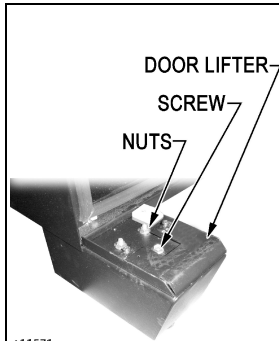

Figure 4c. Left Front Leg
4. **Retract the Front Legs** - Start with the Left Front Leg. From underneath the machine, loosen the two screws shown in Figure 4d. Remove the remaining 4 screws and the large screw. (Figure 4c). Remove the Left Hinge Reinforcement and the Door Lifter. Save all parts for step 5. Push the Left Front Leg in so that it is flush with the cabinet. Tighten the two (2) screws underneath.